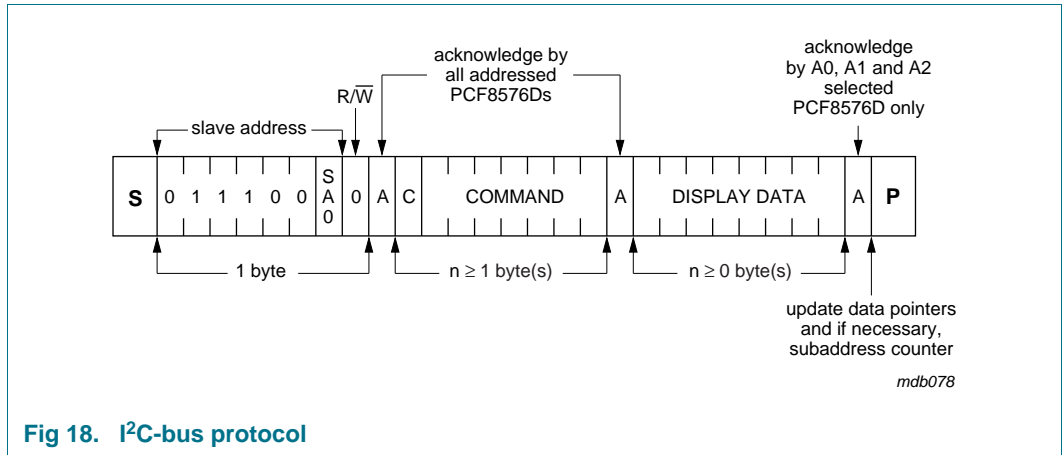

Fig 18. I²C-bus protocol
The I²C-bus protocol is shown in Figure 18. The sequence is initiated with a START condition (S) from the I²C-bus master which is followed by one of two possible PCF8576D slave addresses available. All PCF8576Ds whose SA0 inputs correspond to bit 0 of the slave address respond by asserting an acknowledge in parallel. This I²C-bus transfer is ignored by all PCF8576Ds whose SA0 inputs are set to the alternative level.